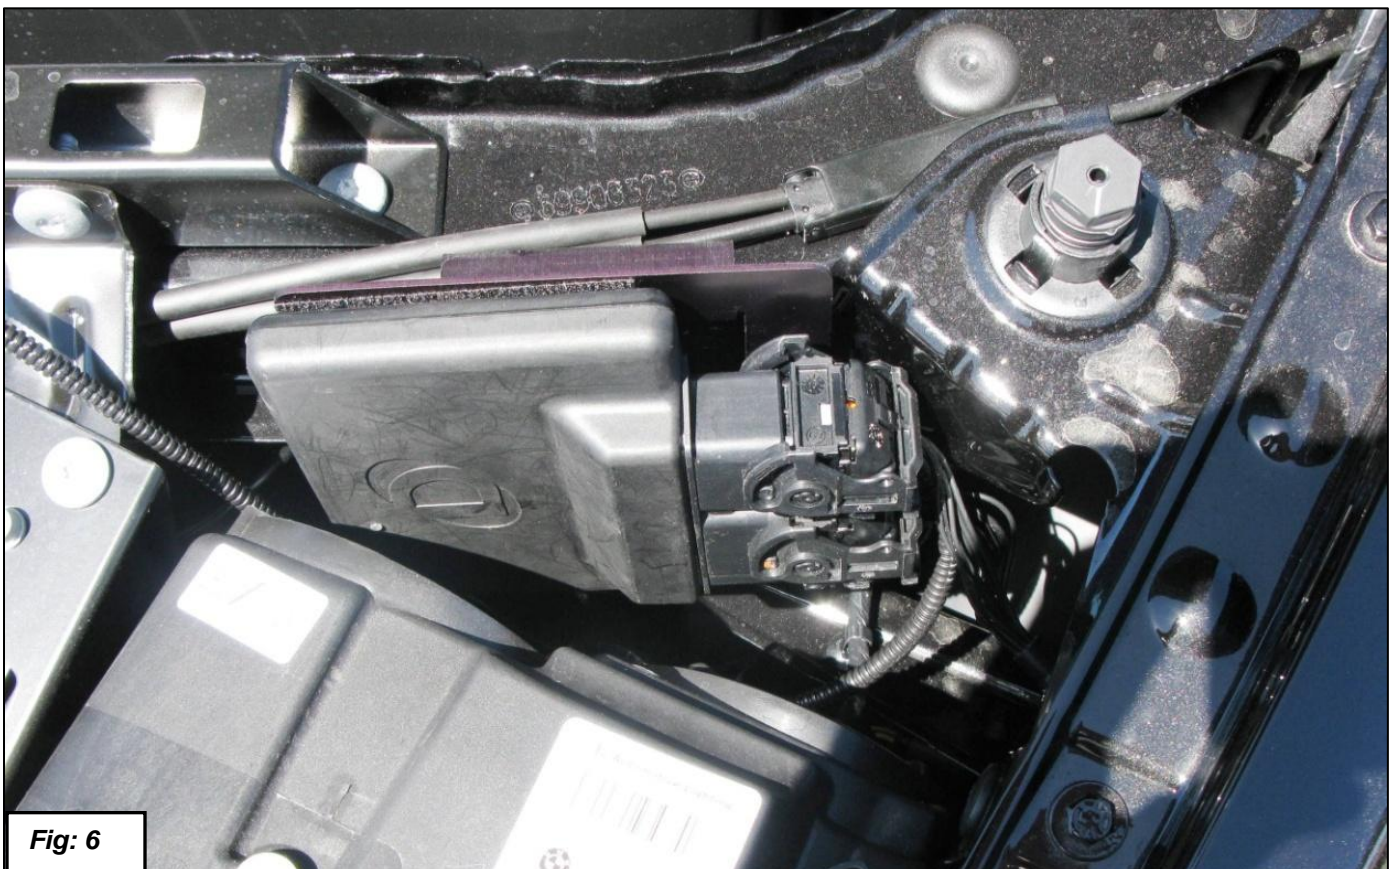

Fig: 6
49. Zip tie the rubber sleeve in 7 spots as shown in figure 6 then position and secure both interrupt harness following the 6 cylinder instructions.
7. Zip tie the rubber sleeve in 7 spots as shown in figure 6 then position and secure both interrupt harness following the 6 cylinder instructions.
7. Clean the DINANTRONICS Bracket so the Velcro double stick tape will adhere. Peel the cover off the Velcro and adhere the DPT ECU to the Bracket lining up the box as shown. See figure 6.
11. Mount the DINANTronics box to the same bracket in the same location that is shown in the 6 cylinder instructions above steps 1 thru 8 except you route the wires from the Engine control unit to the DINANTronics Box over the frame rail and under the fender bracket as shown in figures 6 and 8.